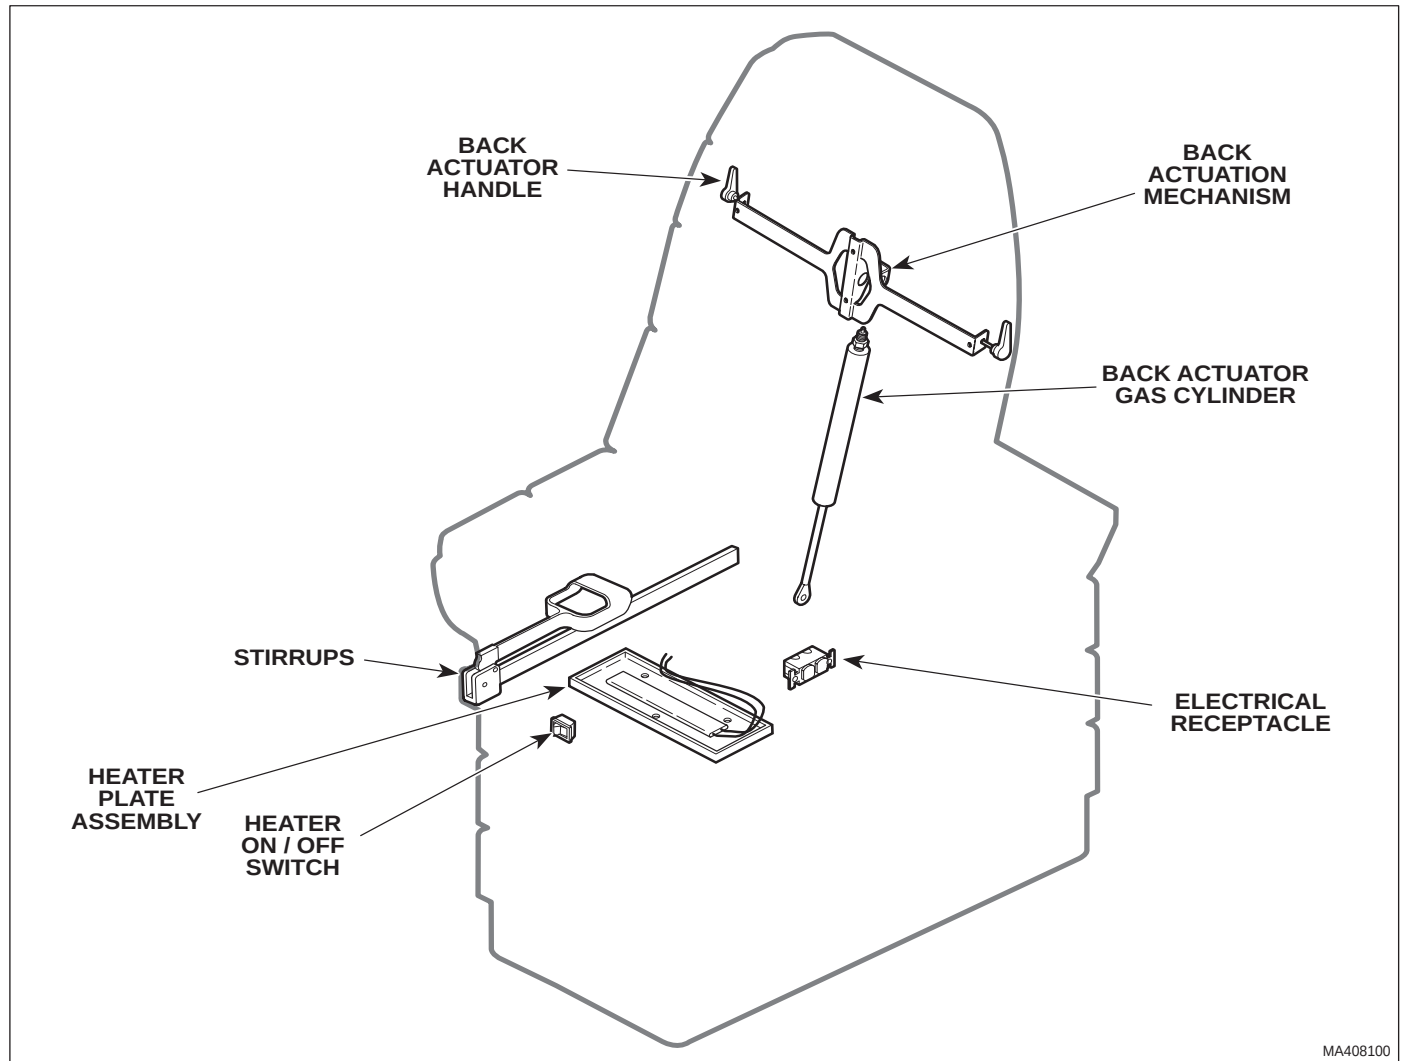

Figure 1-1. Major Components
1.3 Description of 404 Medical Examination Table**A. General Description (See Figure 1-1).**